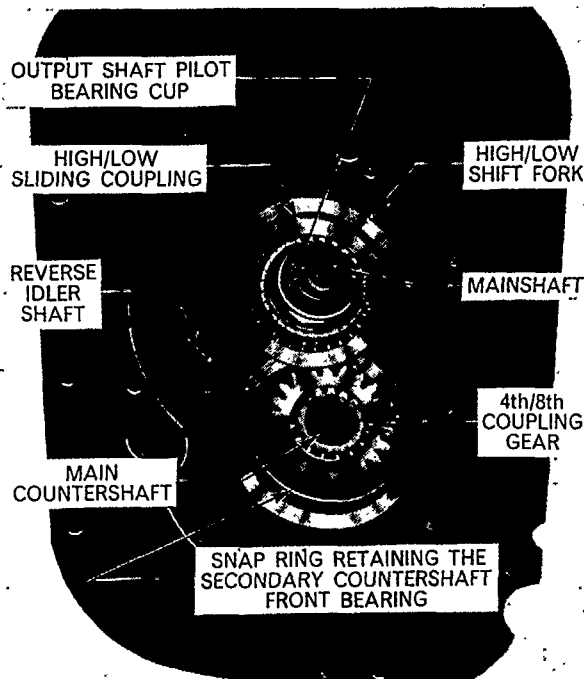

Figure 29
5. Remove the High/Low sliding coupling from the rear of the mainshaft, Figure 29.
1. Make certain that the High/Low sliding coupling is engaging the dog-teeth on the rear of the mainshaft, Figure 29, and that the High/Low shift fork is located in the groove of the sliding coupling.
2. Make sure the snap ring, located immediately in front of the secondary countershaft front bearing, in the transmission case, Figure 29, is in position before proceeding.